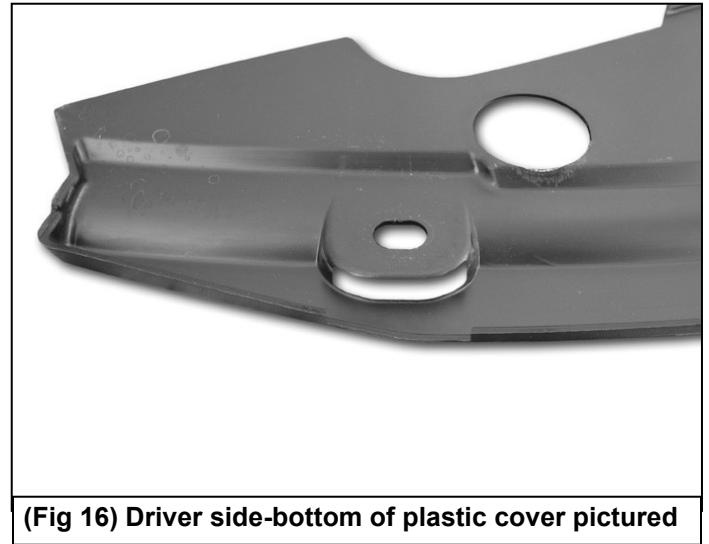

**Fig 14**
12. Next, place a 2" x 2" piece of the Thin Adhesive Backed Foam Tape on the underside of the Top Brackets anywhere it can come in contact with the top of the plastic grille, (Figure 14). Trim the Foam Tape as necessary.